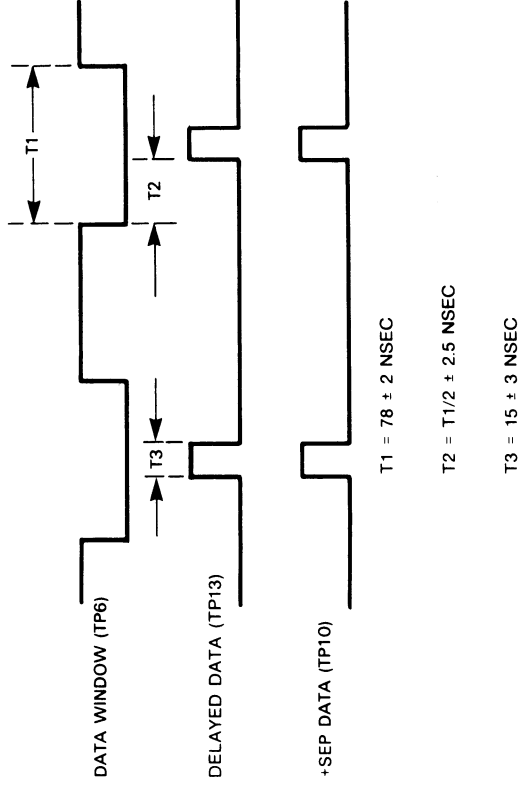

FIGURE 3-14. DATA SEPARATOR RESPONSE
- Data Separator waveforms are shown in Figure 3-14 for an "all ones" bit pattern read back from a disc pack.